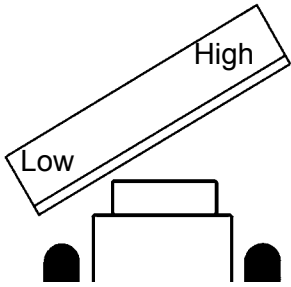
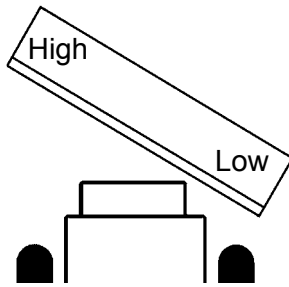
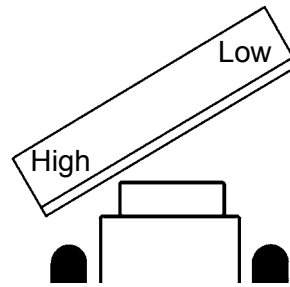
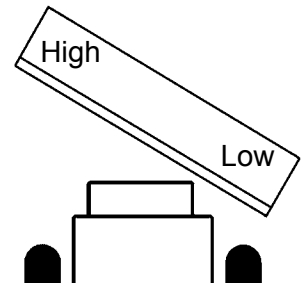

Figure 4
Figure 5
Figure 6
Figure 7
- figure 4, turn leveling screws out. (figure 6, A)
- figure 5, turn leveling screws in. (figure 6, A)
- figure 6, turn the adjustment screw in. (figure 6, B)
- figure 7, turn the adjustment screw out. (figure 6, B)
- figure 4, turn leveling screws out. (figure 7, A)
- figure 5, turn leveling screws in. (figure 7, A)
- figure 6, loosen hardware that attaches the swing assembly to the brush head assembly; lower the left-hand side of the brush head until both sides are an equal distance above the ground. Tighten the hardware.
- figure 7, loosen hardware that attaches the swing assembly to the brush head assembly;
- figure 4, extend tilt cylinders.
- figure 5, retract tilt cylinders.
- figure 7, loosen hardware that attaches the swing assembly to the brush head assembly; lower the right-hand side of the brush head until both sides are an equal distance above the ground. Tighten the hardware.
- figure 4, lengthen the hitch topline.
- figure 5, shorten the hitch topline.
- figure 6, lower the adjustable 3-Point hitch arm.
- figure 7, raise the adjustable 3-Point hitch arm.